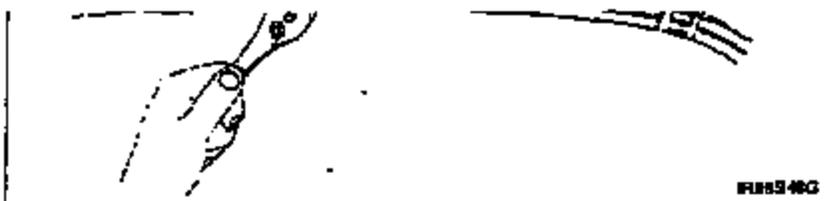

Figure 3
7. Remove the three (3) rail upper mounting bolts. See Figure 3.